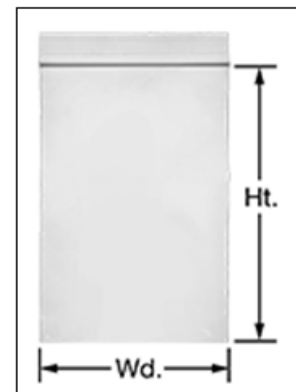

Figure 1: Top Seal Bag
2. Size dimensions will be given on drawings in the form Width x Height, see **Figure 1**. Height is measured from bottom of bag to below the seal. General tolerance is ± 12.7 mm [.50 in].
3. Material should be polyethylene (PE) plastic.